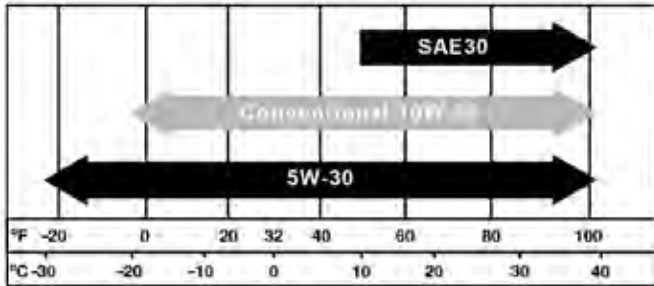

Figure 15 - Recommended Oil
1. Only use the engine oil specified in Figure 15.
6. Select the proper engine oil as specified in Figure 15.